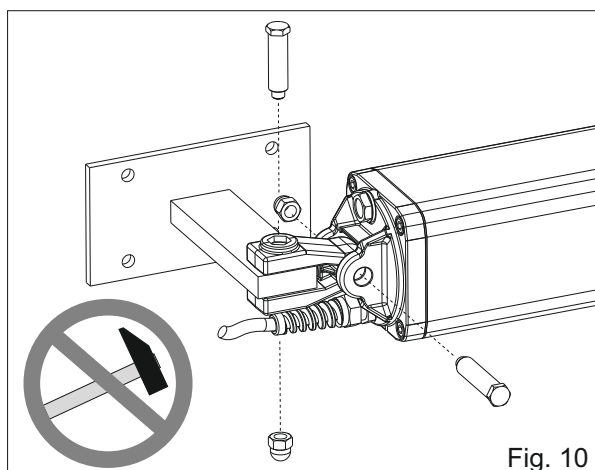

Fig. 10
- Fix the oscillating fork as in Fig. 10